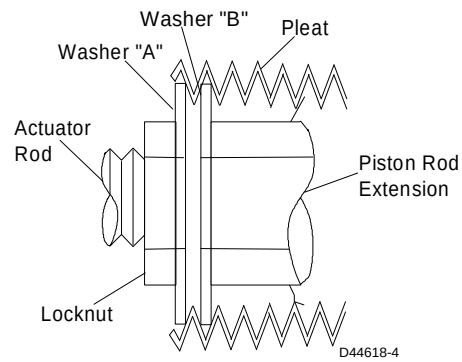

Figure 4: Installing Washers
3. Place Washer "B" inside the first complete pleat at one end of the boot as shown in Figure 4.